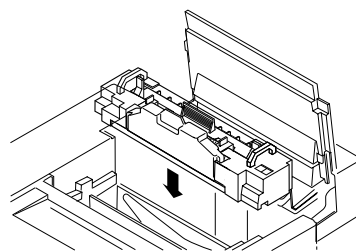

Fig.6-17
- i) After setting the fusing unit in place, lightly press down the unit to firmly connect to the connector on the base. (Fig.6-17)